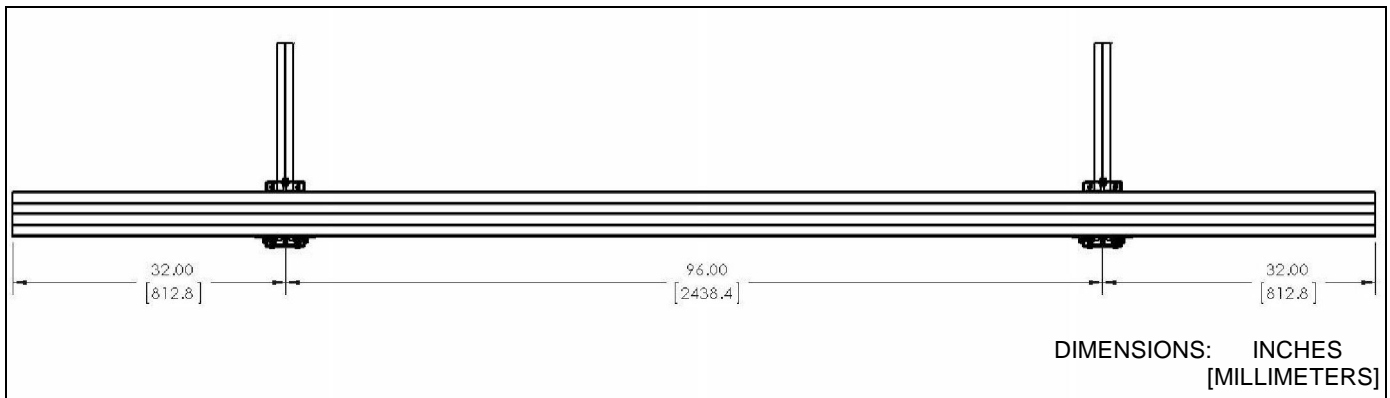

Figure 12
1. The **longest span between ceiling heads** (center to center) is **96 inches (8 feet)**. (See Figure 12)
2. The **longest overhang** (center of ceiling head to end of extrusion) is **32 inches**. (See Figure 12)